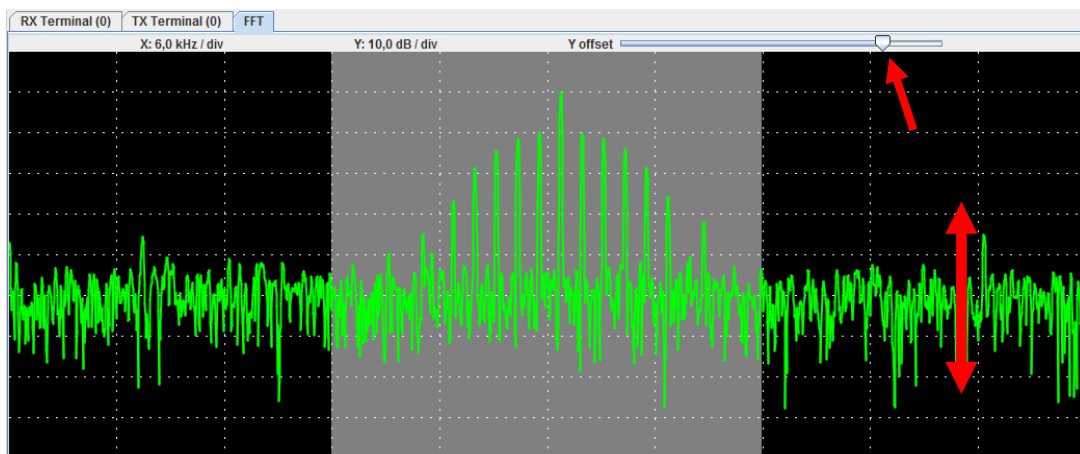

Figure 5-12 Signal offset adjustment
- In the **FFT** tab, please adjust the signal offset using the **Y** slider to fully display the received signal, as shown in Figure 5-12.